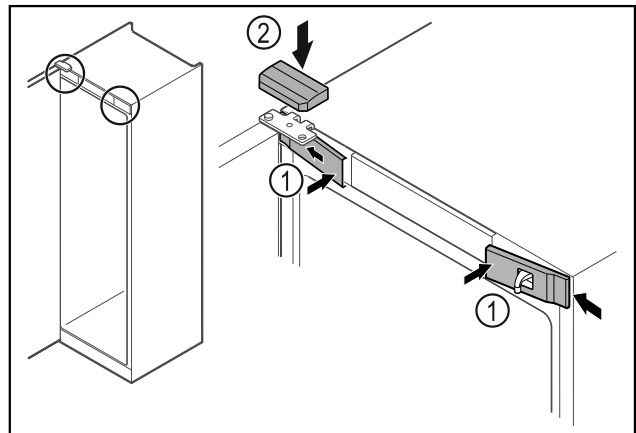

Fig. 42
- ▶ Hook in the front covers *Fig. 42 (1)* on the side and snap them into place.
- ▶ Snap on the top cover *Fig. 42 (2)* from above.